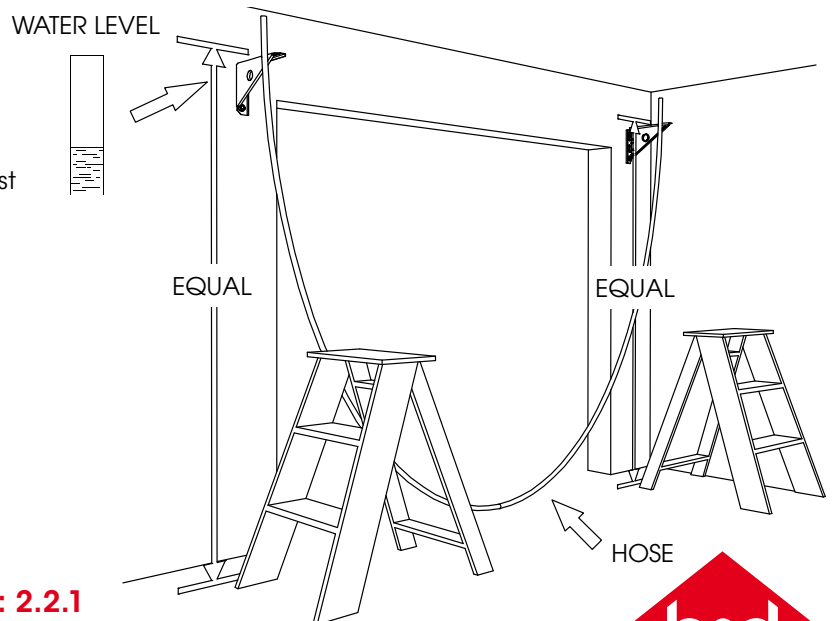

Fig: 2.2.1
- Using a laser or water level, mark the position for the second bracket (**Fig 2.2.1**)